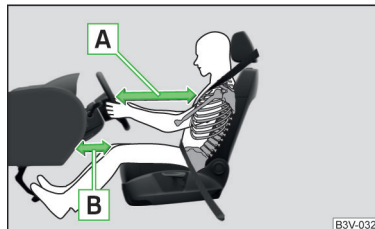

Fig. 10
- For the driver and front passenger, it is important to maintain a distance of at least 25 cm to the steering wheel or the dashboard » Fig. 10 - A. If you do not keep this distance, it means that the airbag system cannot protect you - There is a risk to life! The front seats and the head restraints must always also be correctly adjusted to match the body size of the occupant.
- Adjust the driver's seat in a forward/back direction so that there is a gap of at least 10 cm between the legs and the dashboard in the vicinity of the knee airbag » Fig. 10 - B. If it is not possible to meet this requirement due to your body size, visit a specialist garage.